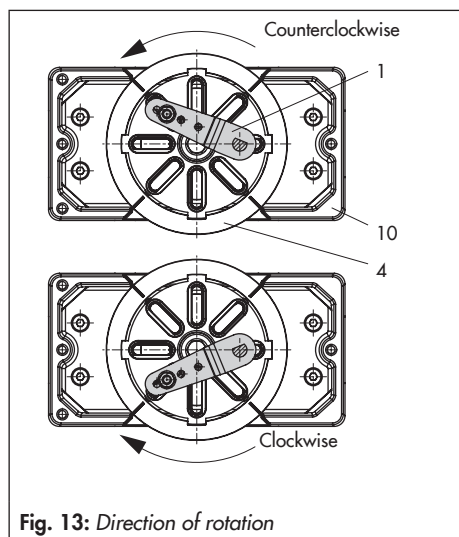

Fig. 13: Direction of rotation
- place spacers (11) underneath, if necessary.
- For **SAMSON Type 3278 and VETEC S160 Rotary Actuators**, screw the adapter (5) onto the free end of the shaft or place adapter (5.1) onto the shaft of the **VETEC R Actuator**. Place adapter (3) onto **Type 3278, VETEC S160 and VETEC R Actuators**. For **VDI/VDE version**, this step depends on the actuator size.
- Fasten coupling (4) on the slotted actuator shaft or adapter (3) using screw (4.1) and disk spring (4.2).
- Unscrew the standard follower pin (2) from the positioner's M lever (1). Attach the follower pin (\varnothing 5 mm) included in the mounting kit to pin position 90°.
- Mount connecting plate (6) for required G 1/4 connecting thread or pressure gauge bracket (7) with pressure gauges on the positioner, making sure the two seals (6.1) are seated properly. Double-acting springless rotary actuators require the use of a reversing amplifier on the connection side of the positioner housing (refer to section 4.6).
- Place positioner on housing (10) and screw it tight. Taking the actuator's direction of rotation into account, adjust lever (1) so that it engages in the correct slot with its follower pin (Fig. 13).